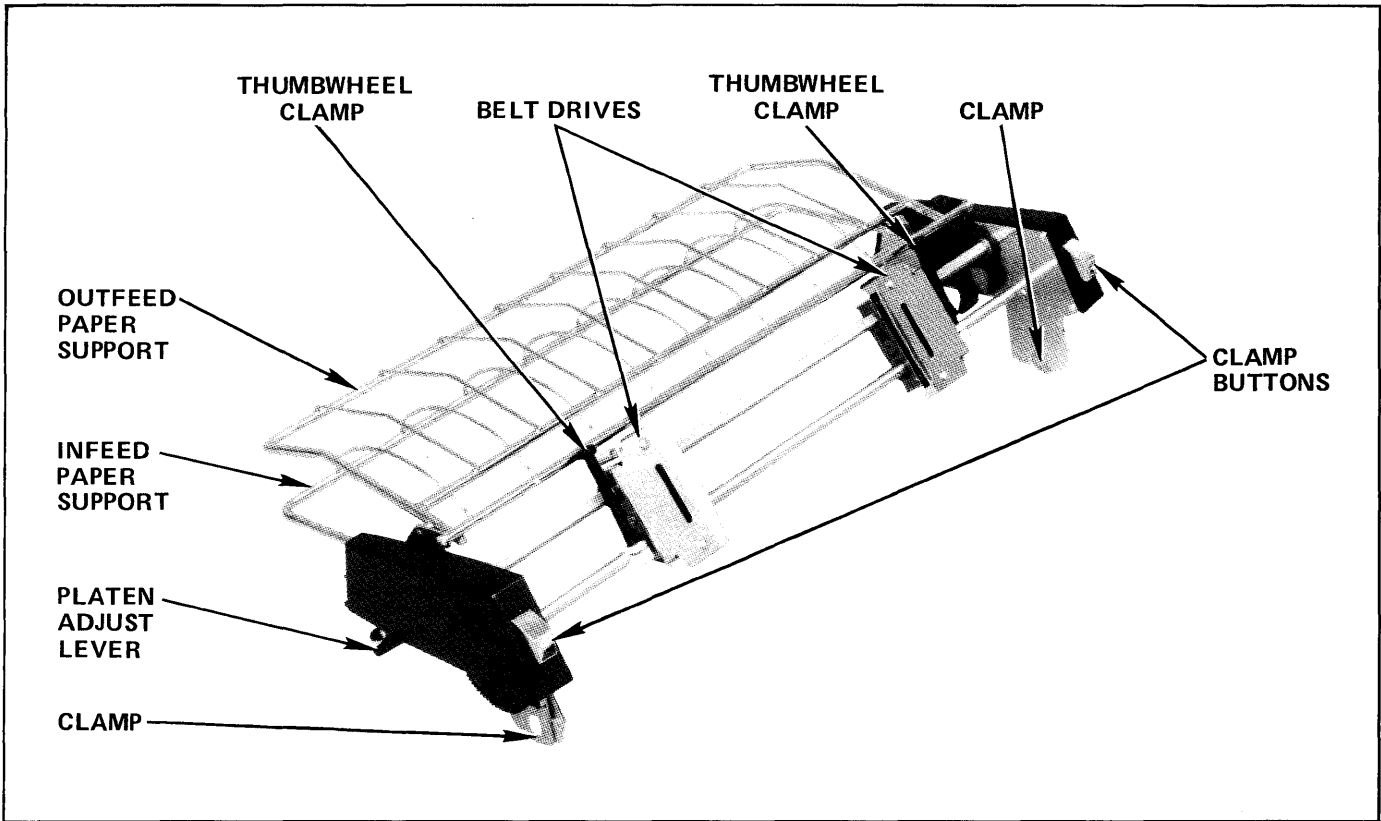

Figure 2-16. Forms Tractor
- (1) Remove any paper from the forms tractor.
- (2) Press the two clamp buttons (Figure 2-16) in as far as possible and lift the assembly straight up.
- (1) Pull the paper release lever and paper bail lever forward toward the front of the HyTerm.
- (2) Carefully lower the forms tractor down over the platen until its clamps (Figure 2-16) are resting on the platen shaft.